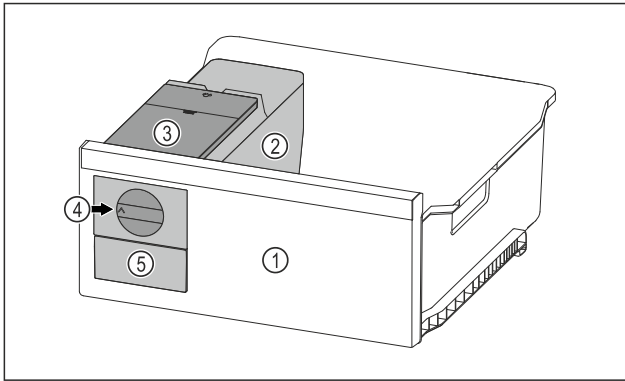

Fig. 102 Example illustration
- Turn the rotary knob Fig. 102 (4) clockwise as far as it will go.
- ▷ Ice cubes fall from the ice cube tray into the ice cube drawer Fig. 102 (5).